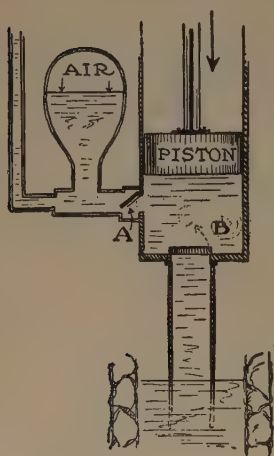

FIG. 314.—The force pump.
**The force pump.** A common type of force pump is shown in Fig. 314. A solid piston is moved up and down in the cylinder of the pump.